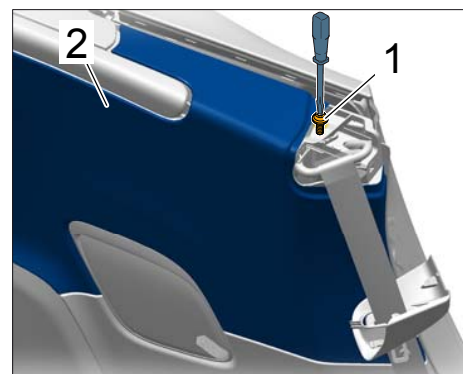

Figure 5
- 4.3 Unscrew fastening screw ⇒ *Figure 5 -1-* on the side trim panel ⇒ *Figure 5 -2-*.